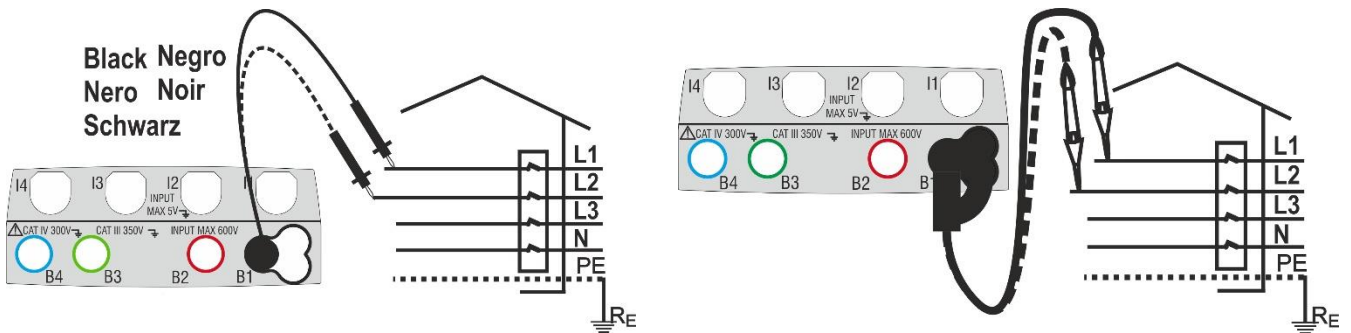

Fig. 23: Phase sequence check of 1T phases with terminal and remote lead
3. Insert the blue and black connectors of the single cables in the corresponding input terminals of the instrument B4, B1 (2T measurement). Insert in the free end of the cables the corresponding alligator clips or tips. It is also possible to use the remote lead by inserting its multipolar connector into the input lead B1. Connect the alligator clips, the tips or the remote lead to phase L1 and N according to Fig. 23 and Fig. 24.
Under these conditions, connect the alligator clips, the tips or the remote lead to phase L2 and N in accordance with Fig. 23 and Fig. 24.